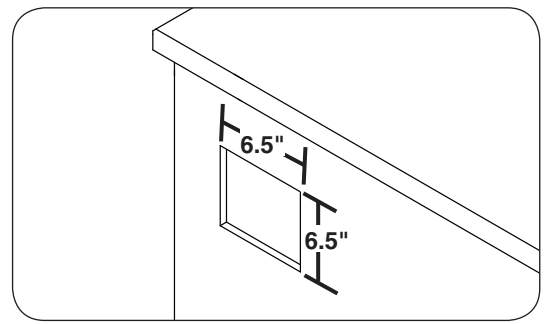

Fig. 2-1 Cut out dimensions
1. Create box cutout in grill enclosure (see Fig. 2-1).